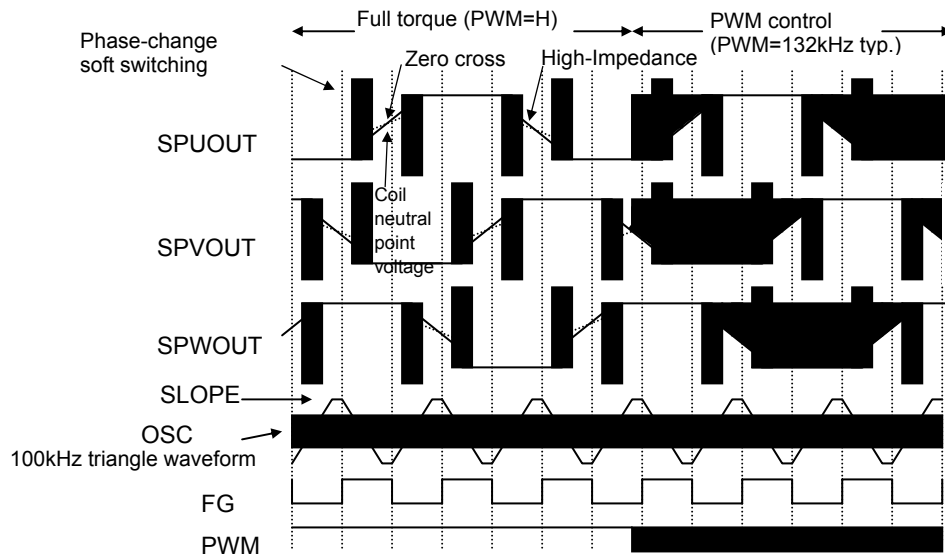

Fig. 14 Each pin waveform at normal rotation (Full Torque & PWM)
2) Operation at normal rotation (Fig. 14)